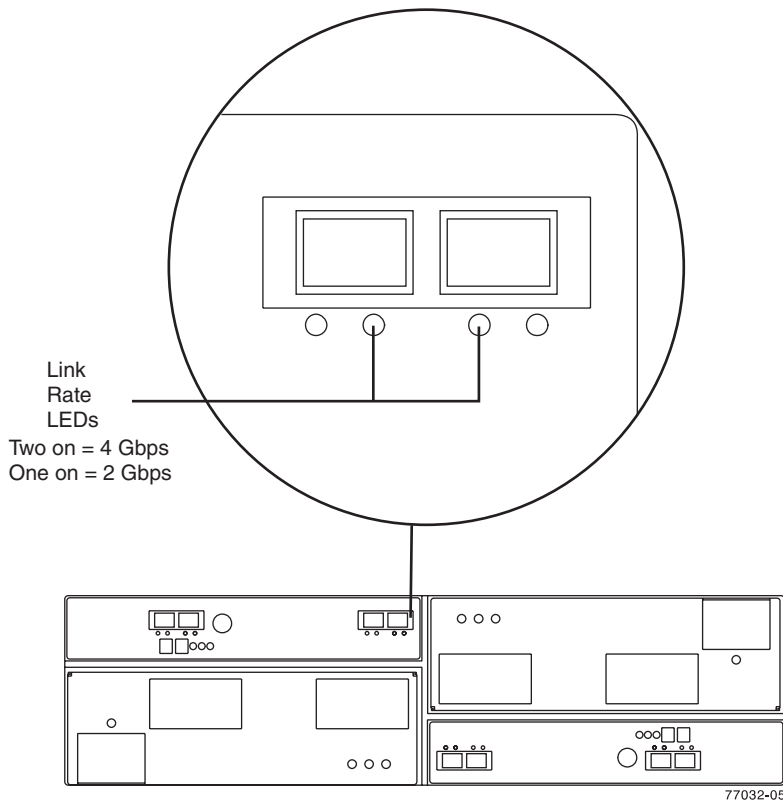

Figure 46. Link rate LEDs
2. Locate the Link Rate indicator LEDs. Figure 46 on page 88 shows the location of the Link Rate indicator lights on the back of the storage expansion enclosure.
4. Locate the Link Rate switch. Figure 46 shows the location of the Link Rate indicator light on the front of the command module.